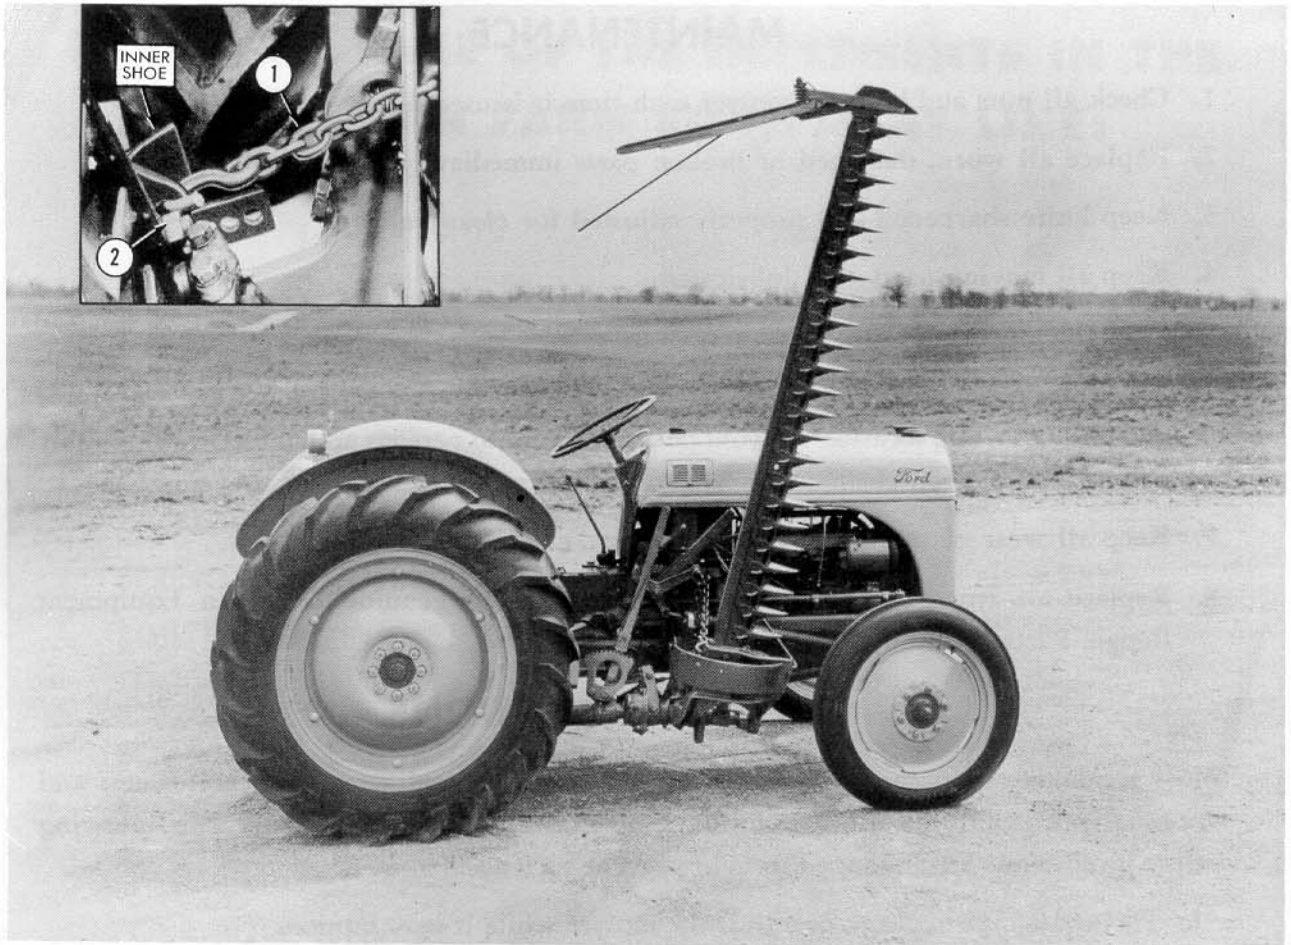

Figure 26
Transport Position: Raise cutter bar to vertical position and hook chain (1) into hole (2) in the inner shoe as shown in insert, Figure 26.